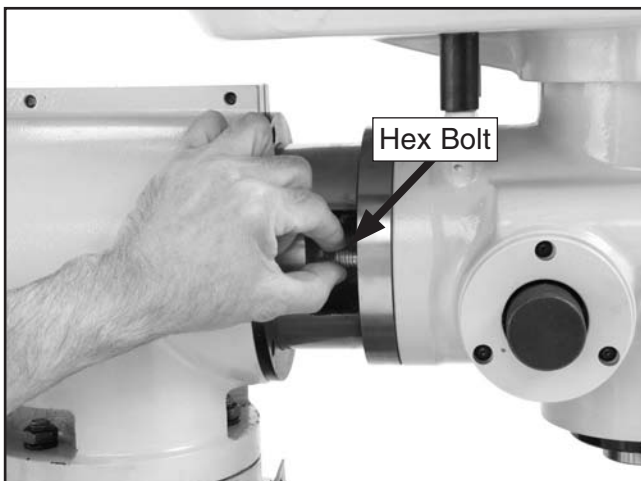

Figure 25. Pushing hex bolt back into headstock.
8. While an assistant holds the machine motor, loosen the locking hex nut on the opposite side, then push the loose hex bolt back into the headstock (see **Figure 25**) until your assistant can tilt the headstock back to the vertical position.